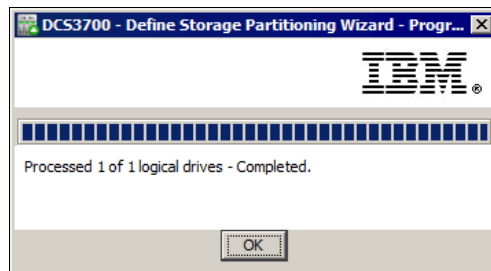

Figure 10-16 Storage Partitioning - Process Completed Status
4. Click **Finish** when you are done selecting the logical drives and assigning the LUNs. The process should be completed, as shown in Figure 10-16.